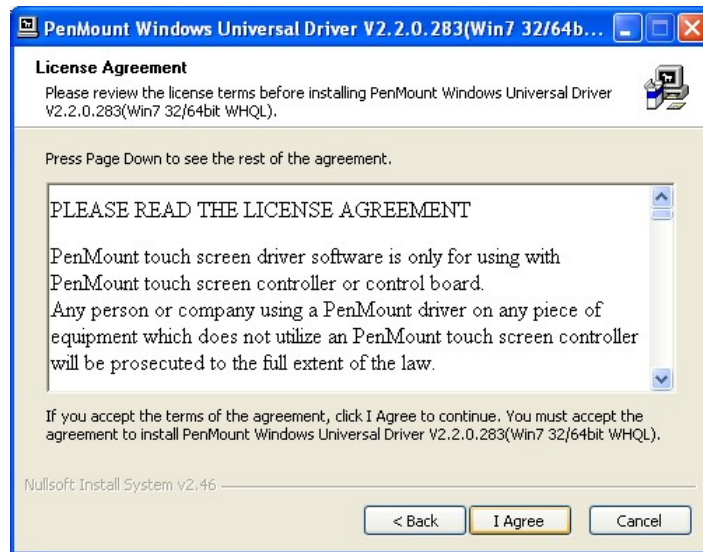

Figure 5-3: License Agreement
Step 7: The license agreement in **Figure 5-3** appears. Accept the terms of the agreement by clicking **I Agree**.